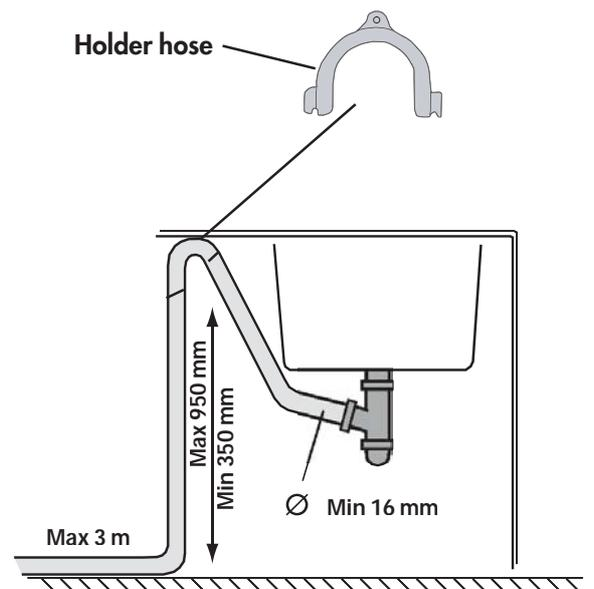

Figure 3.
- Route the drain hose to a connection nipple on the water trap of the sink. Note that the hose must be secured on a level with the under side of the sink, as washing water from the sink can otherwise run down into the dishwasher (see Figure 3).
- Fit the drain hose onto a cone-shaped pipe connection on the water trap of the sink. The cone-shaped pipe must be cut to an internal diameter of at least 16 mm (see Figure 3).
- The drain hose may be extended up to a maximum of 3 m. Any connectors and connecting pipes must have an internal diameter of at least 16 mm. No part of the drain hose may lie higher than 950 mm above the floor (see Figure 3).
- The hose must always discharge at least 350 mm above the floor (see Figure 3).